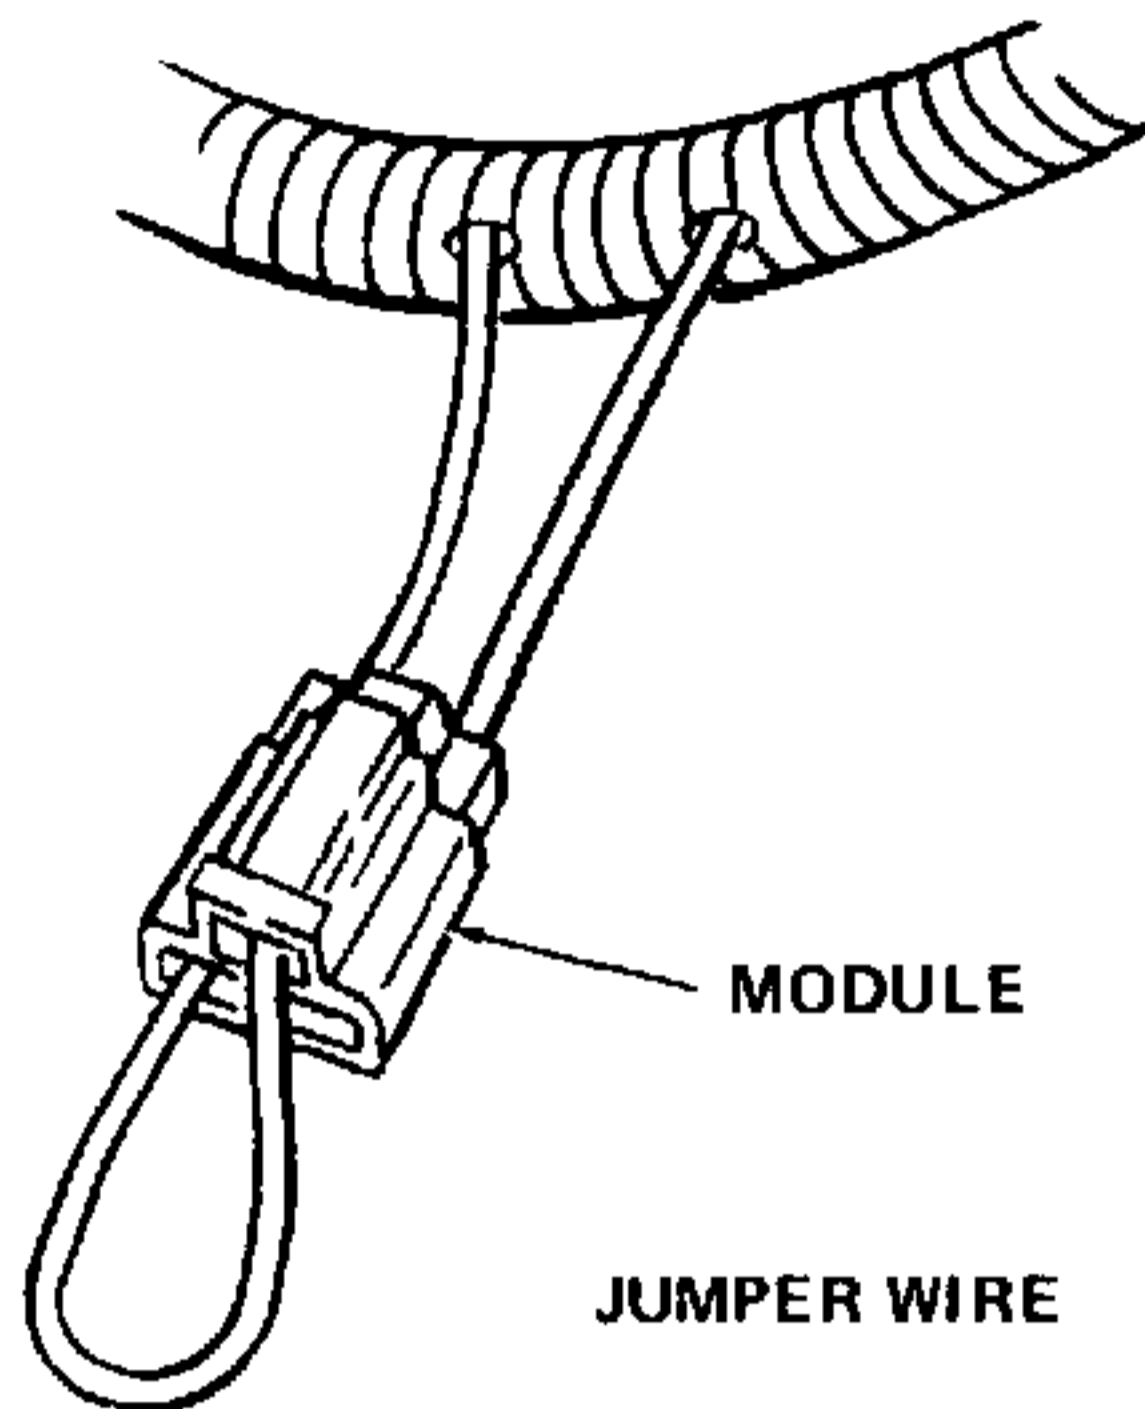

Figure 7-33. Removing Jumper Wire and Module.
2. Locate and remove blue jumper wire and module in electrical harness beneath instrument panel. Refer to Figure 7-33.